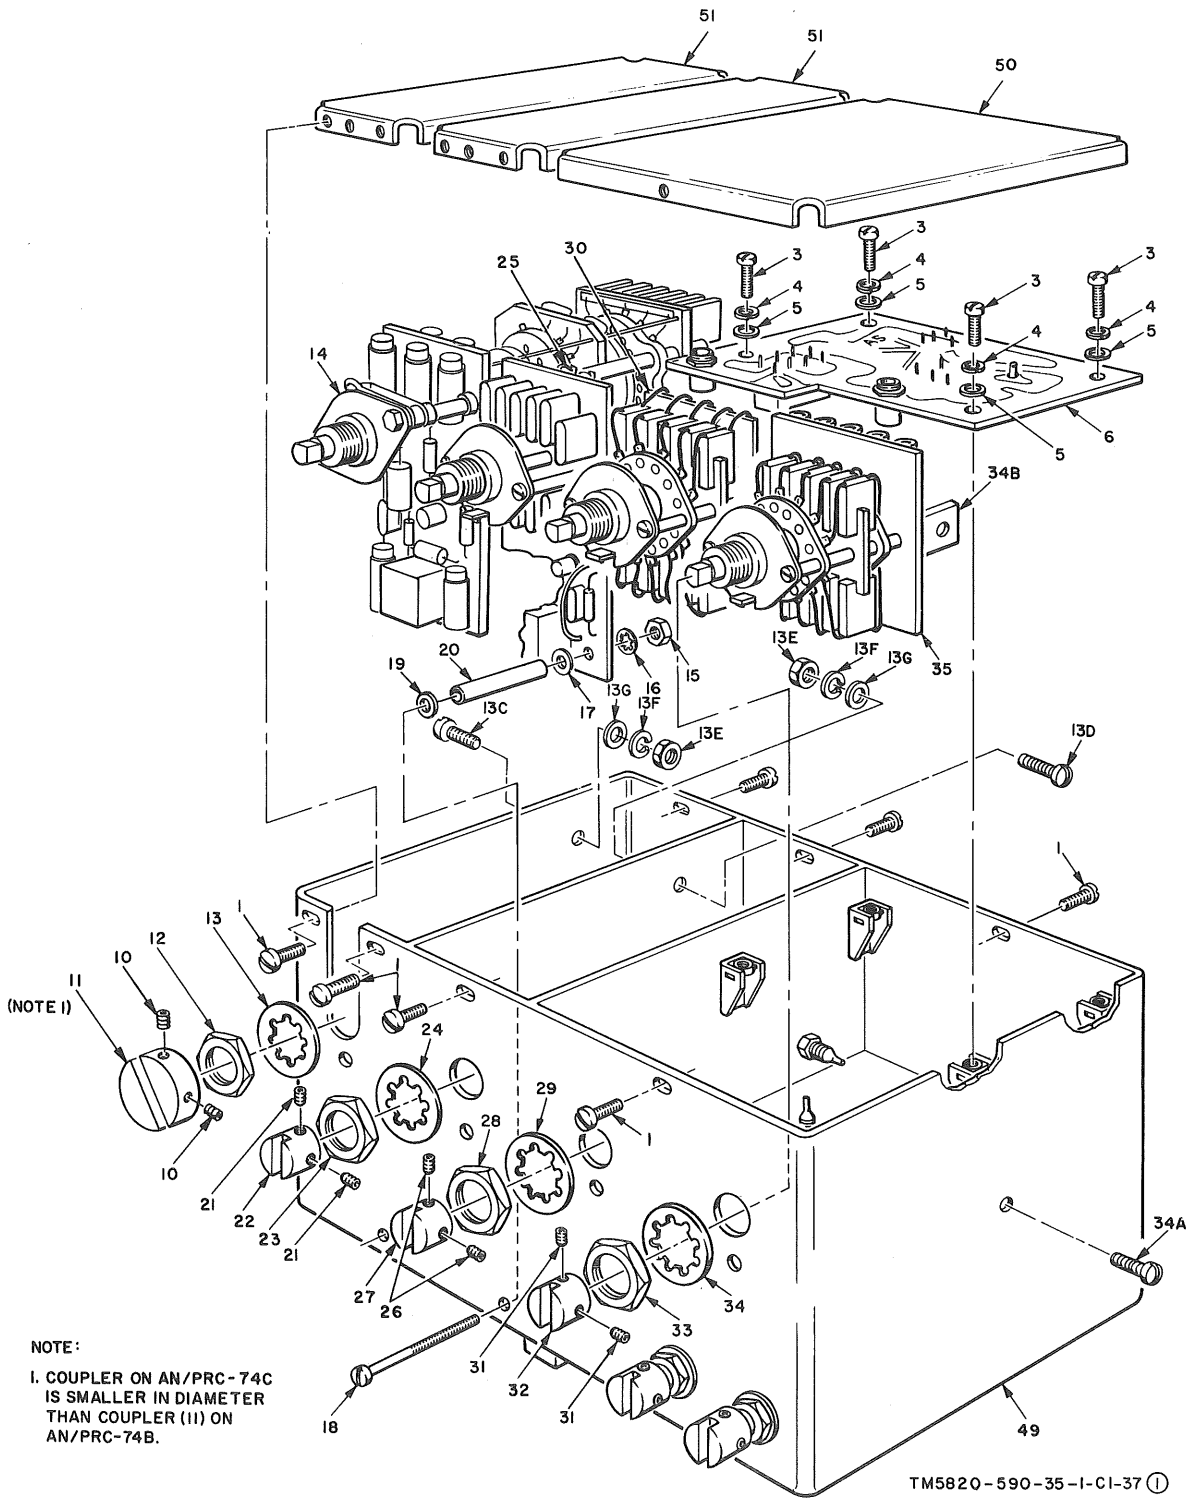
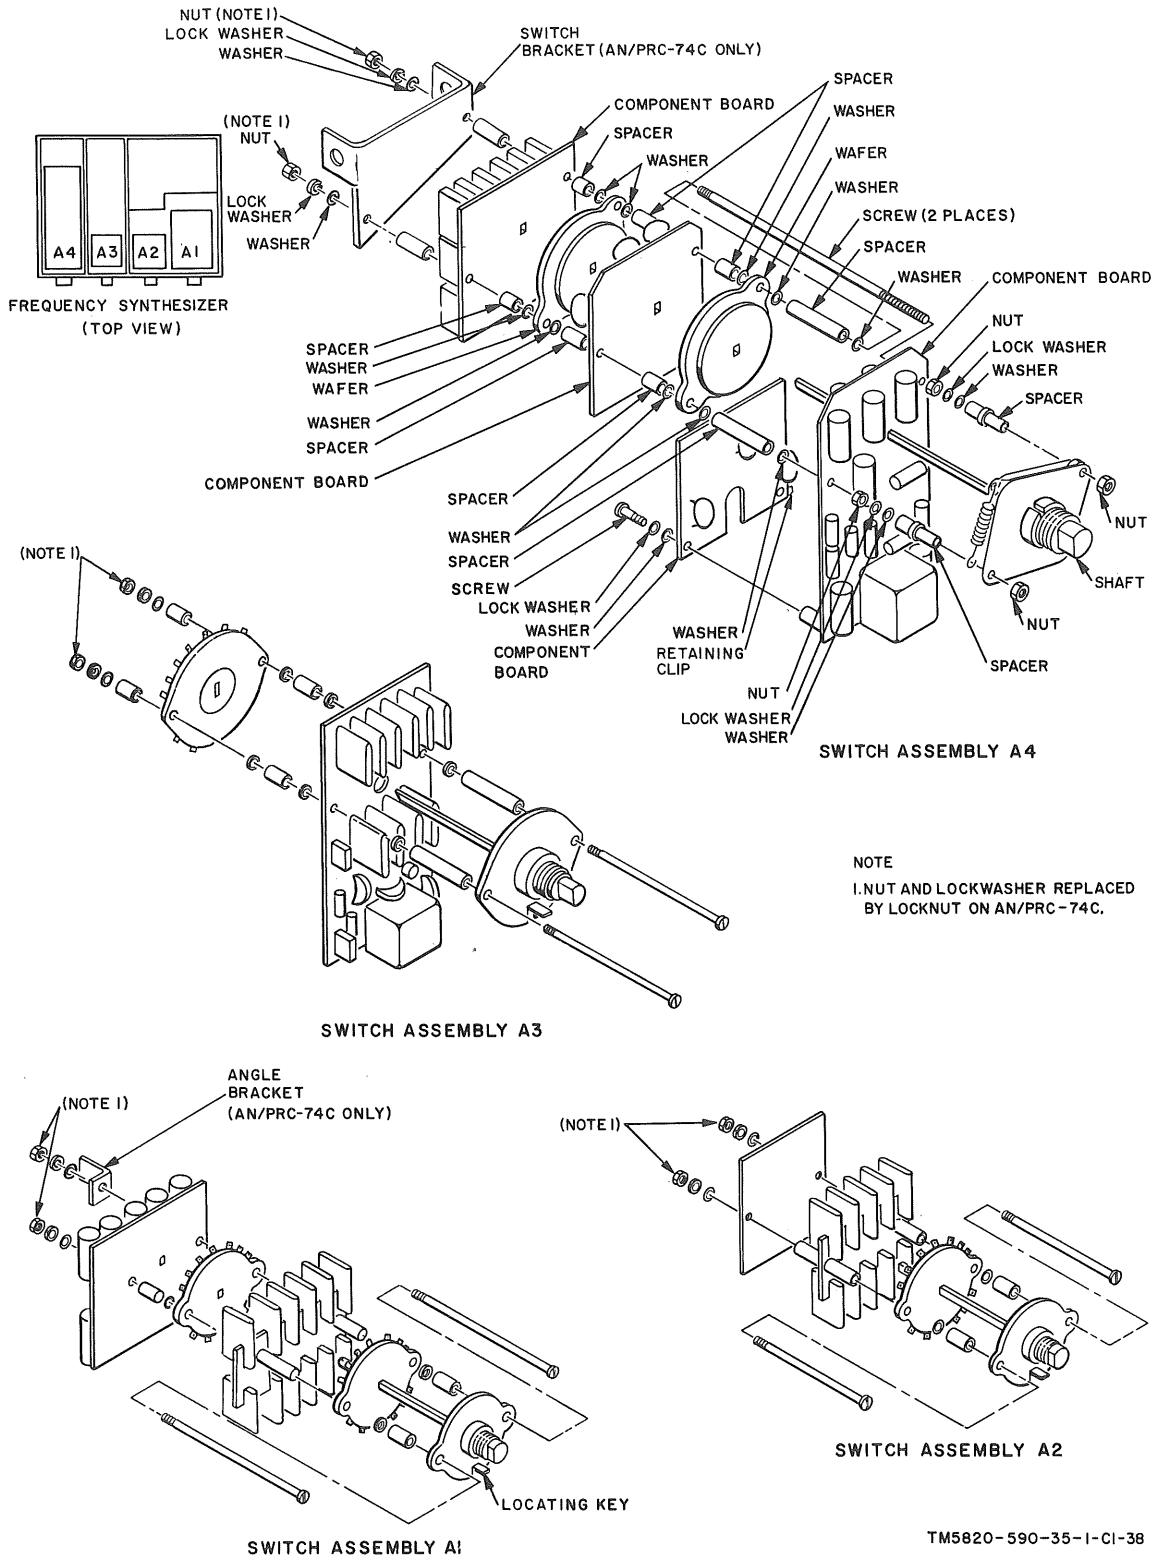

Figure 3-24①. Frequency synthesizer module, exploded view (part 1 of 2).
Figure 3-25. Frequency synthesizer switch disassembly.
d. 100-Kc Switch Assembly A3 Removal (fig. 3-24). Remove 100-kc switch assembly A3 (25) as follows:
(1) Remove nut (15) and lockwasher (16) and washer (17).
(2) Remove screw (18), glass washer (19), and spacer (20).
(3) Remove two setscrews (21) and coupler (22).
(4) Remove nut (23) and lockwasher (24).
(5) Lift 100-kc switch assembly A3 (25), and unsolder the wire connections.
e. 10-Kc Switch Assembly A2 Removal (fig. 3-24). Remove 10-kc switch assembly A2 (30) as follows:
(1) Remove two setscrews (26) and coupler (27).
(2) Remove nut (28) and lockwasher (29).
(3) Lift 10-kc switch assembly A2 (30) and unsolder wire connections.
(4) Disassemble 10-kc switch assembly A2 (fig. 3-25) as follows:
(3) Lift 1-kc switch assembly A1 (35), and unsolder the wire connections.
(4) Disassembly 1-kc switch assembly A1 (fig. 3-25) as follows:
(a) Insert screws through mounting holes of switch (fig. 3-25).
(a) Insert screws through mounting hole of switch (fig. 3-25).
(a) Insert two screws through mounting holes of the switch (fig. 3-25).